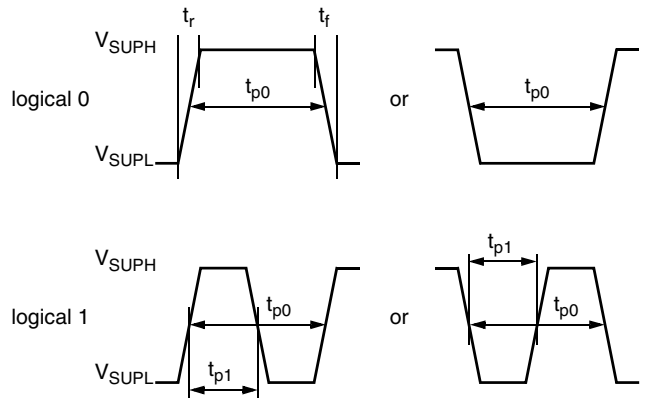

Fig. 6–1: Definition of logical 0 and 1 bit
- Write a register (see Fig. 6–2 on page 29)
- Read a register (see Fig. 6–3 on page 30)
- Programming the EEPROM cells (see Fig. 6–4 on page 30)
- Activate a sensor (see Fig. 6–5 on page 30)